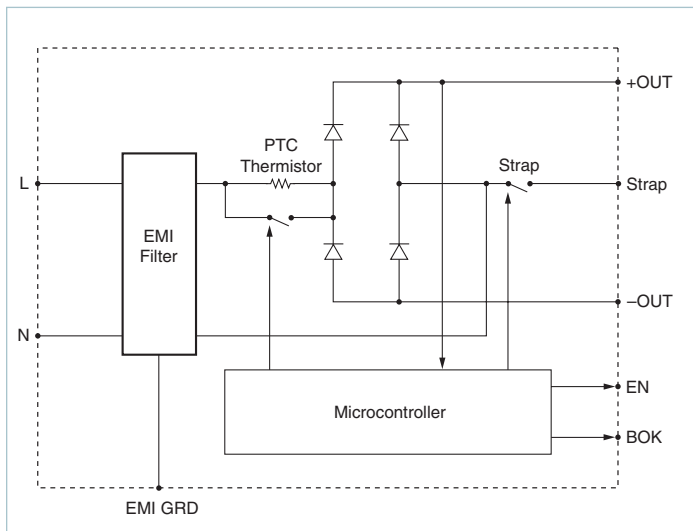

Figure 7 — Functional block diagram: autoranging rectifier
Initial Conditions: The switch that bypasses the inrush limiting PTC (positive temperature coefficient) thermistor is open when power is applied, as is the switch that engages the strap for voltage doubling. (See Figure 7). In addition, the converter modules are disabled via the Enable (EN) line, and Bus OK (BOK) is high.